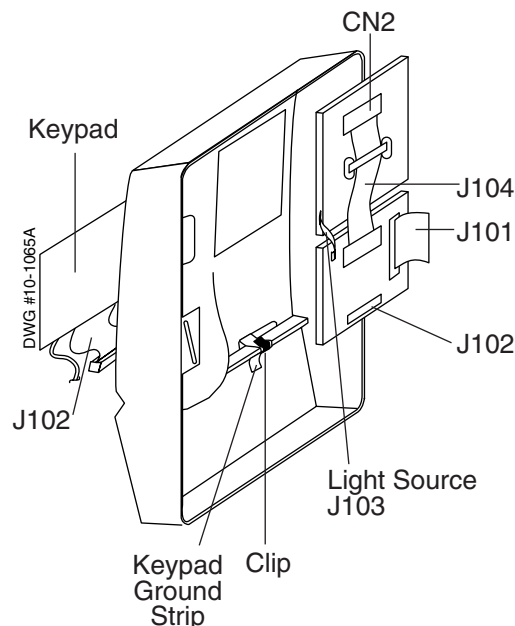

Figure 3-25 Display Removal
2. Disconnect the cable connectors J104 and J103 coming from the display board, J101 coming from the digital control board (should already be disconnected), and J102 coming from the Keypad. (Refer to Figure 3-25.)